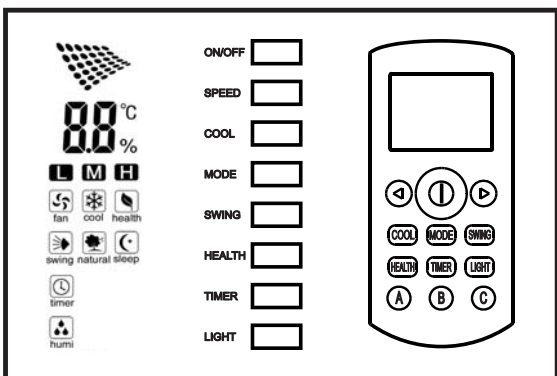

Fig. 7
▶ **4.2. CONTROL PANEL, USE AND FUNCTIONS FOR MODEL BC35 (Fig. 7):**